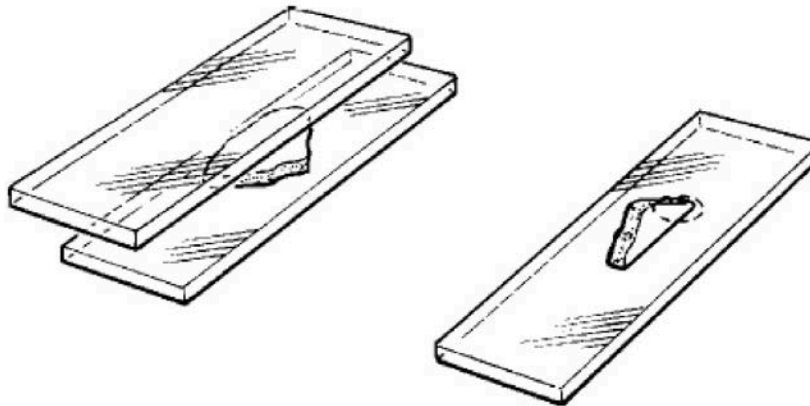

Figure 17 Cutting a wedge-shaped sample
1. Place the sample between two offset glass slides. Allow a triangular portion of the sample to protrude as shown on the left in Figure 17.
3. To mount the sample, rotate it so that it is positioned as shown on the right in Figure 17.